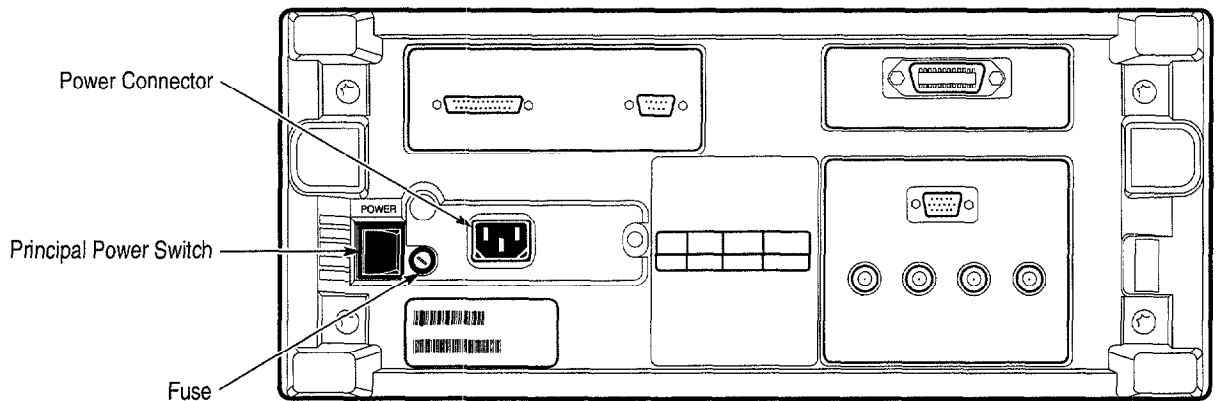

Figure 1-1: Rear Panel Controls Used in Start Up
5. Connect the proper power cord from the rear-panel power connector (see Figure 1-1) to the power system.
1. Check that the rear-panel principal power switch is on (see Figure 1-1). The principal power switch controls all AC power to the instrument.